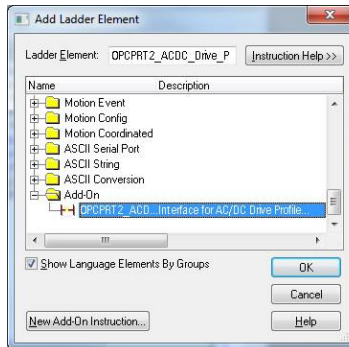

Figure 48: Add AC/DC Drive Profile Add-On Instruction
- 8) Select the AC/DC drive profile add-on instruction in the Add-On folder. Refer to Figure 48.